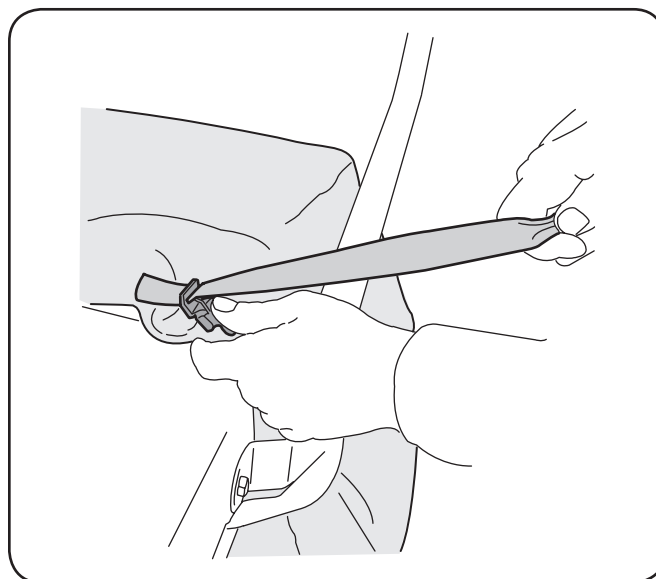

Figure 3-6
- Squeeze the clamp on the drawstring and pull the drawstring tight. Release the clamp. See Figure 3-6.